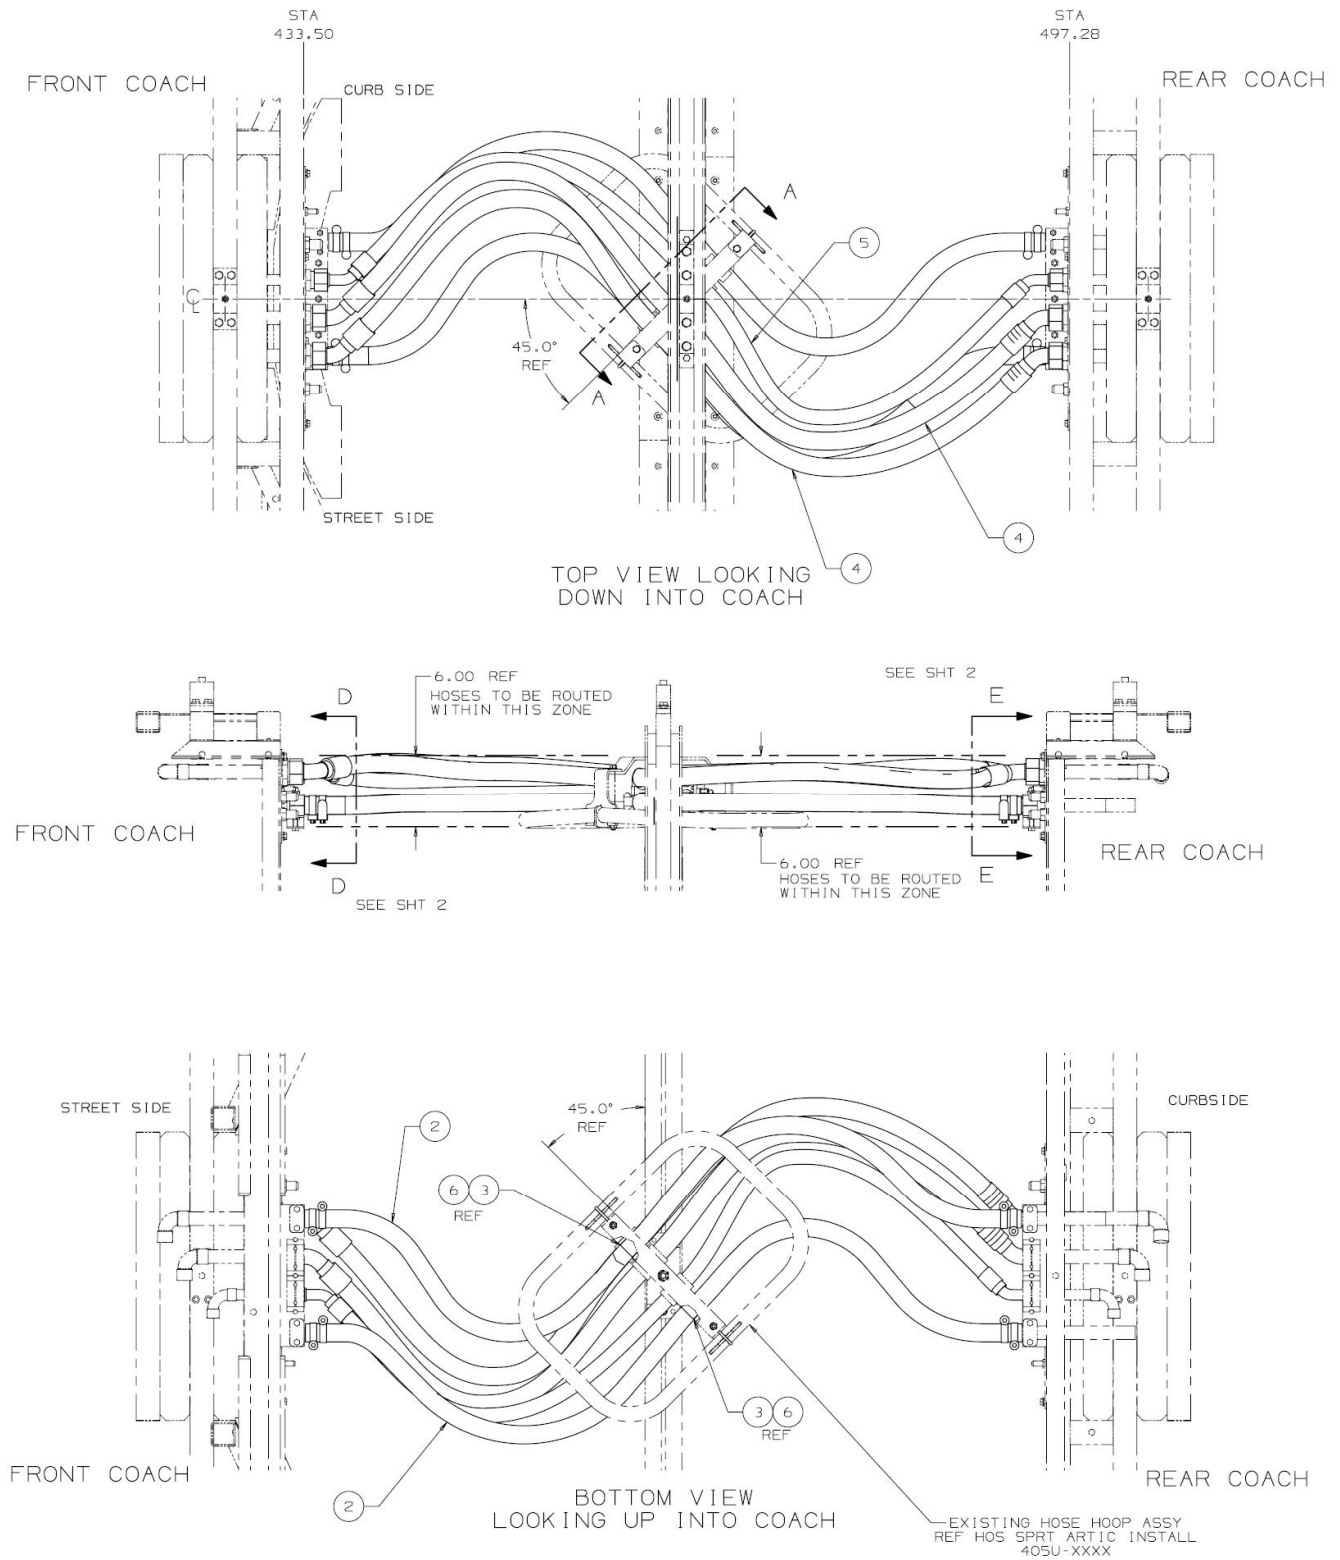

Figure 4: NEW A/C HOSES INSTALLATION
17. Install the new A/C hoses Discharge and Suction hoses NF P/N: 506955 and Liquid line hose NF P/N: 506958 on front and rear bulkhead as shown in Figure 4.